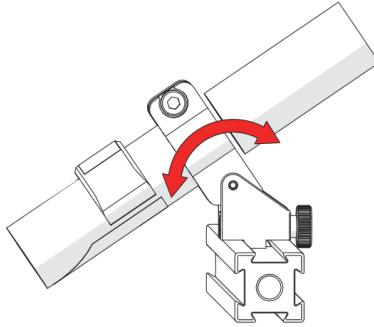

Figure 2-123 Aim guide
3. Adjust the laser guide's friction pivot to direct the laser beam as required (see Figure 2-123 on page 143).